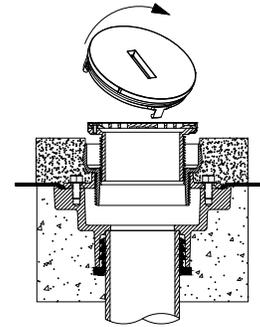

Fig. 10
10. Remove rough-in cover. See Fig. 10